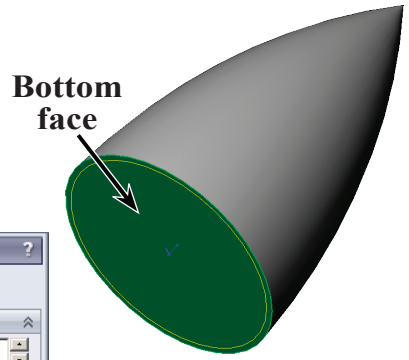

Fig. 9
Step 1. Rotate view to view **underside of Nose Cone** as shown in **Fig. 9**. To rotate view, hold down middle mouse button (wheel) and drag.
Step 2. Click **bottom face** of nose cone, **Fig. 9**.